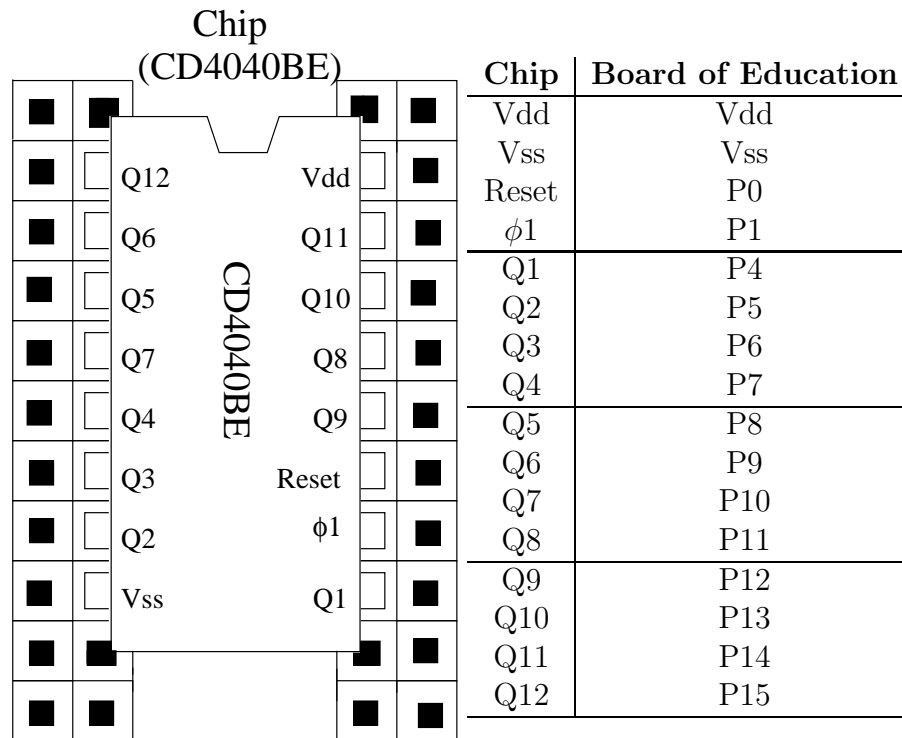

Figure 1: CD4040 Chip
- Connect the Board of Education and the CD4040BE chip according to Figure 1 and Table 1.